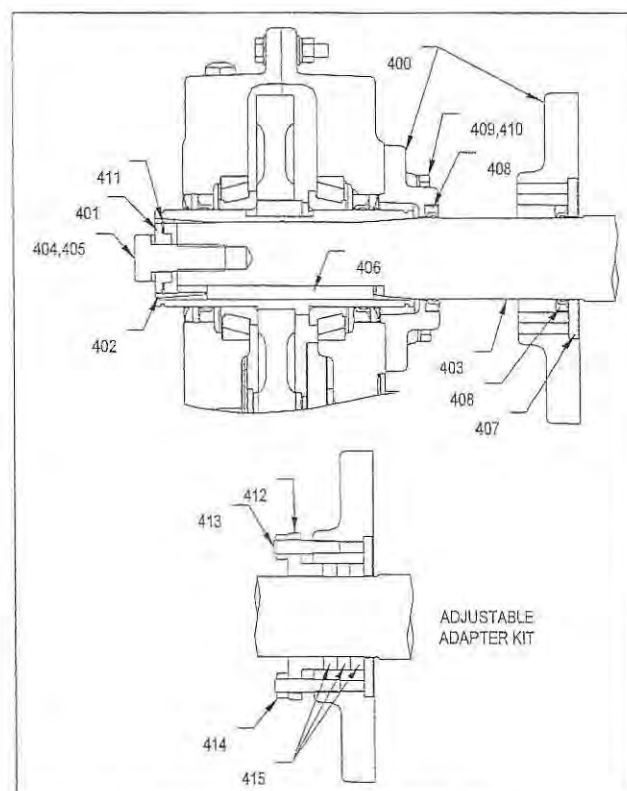

Figure 13 – Screw Conveyor Adapter Assembly
1. Install seals (408) into adapter housing as shown in Figure 13. If the optional packing adapter is to be used, install only one seal in the small end of the adapter. Use extreme care when installing seals to avoid damage to the seals. Press or tap seals into place by applying pressure only on the outer edge of the seal. Make sure seals are install evenly and are not tilted.
2. If using the optional packing adapter, install the two studs (413), retaining ring (412), and two nuts (414). Thread the nuts onto the studs about 4-5 threads. Install the three braided type seals (415) in a circular direction into the adapter cavity. Shoulder the braided seals against the adjustable retaining ring (412). To aid in installation of the driveshaft in step 7, the braided seals can be flattened out slightly with a soft hammer prior to installation. When installing the braided seals offset the joints from each other.
3. Lightly tap the large washer (407) into the counterbore on the large end of the adapter to seal the braided material installed in step 2 or the seal installed in step 1.
5. Position screw conveyor adapter (400) on the reducer output hub so that the small end (end with four drilled holes) rests on reducer. The approximate 1/8" piloting projection should locate in the output seal bore next to the auxiliary seal. Adapter projection should not touch the face of the gear case casting.
6. Place four adapter screws (409) and lock washers (410) through the adapter and thread into the reducer. Tighten the four cap screws (409) to the torque specified in Table 9.
8. Install the retaining ring (411) into the screw conveyor wedge (402). Making sure the driveshaft is fully seated into the reducer, slide the wedge onto driveshaft.
9. Install keeper plate (401), driveshaft cap screw (404), and lockwasher (405). Torque to specifications in Table 9.